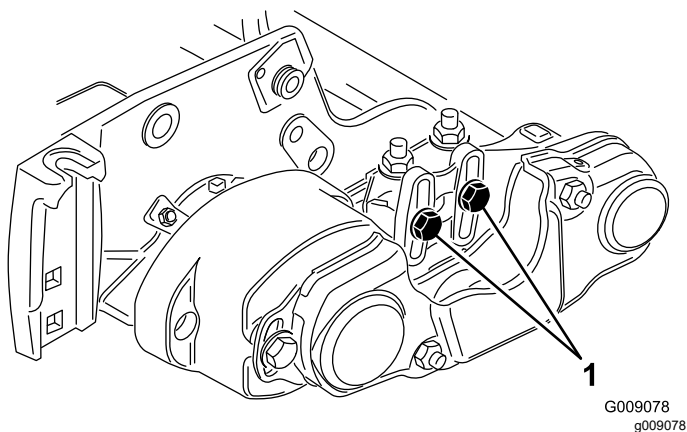
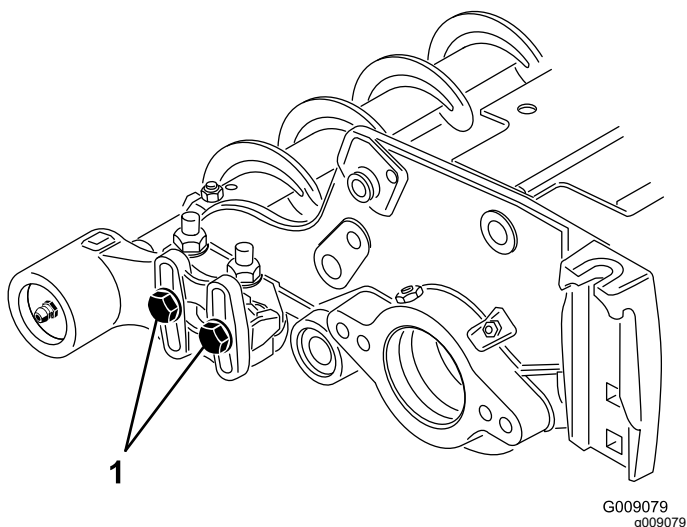

Figure 12
Figure 13
15. Loosen the 2 bolts securing each roller brush bearing housing to the roller brush mounting bracket (Figure 12 and Figure 13).